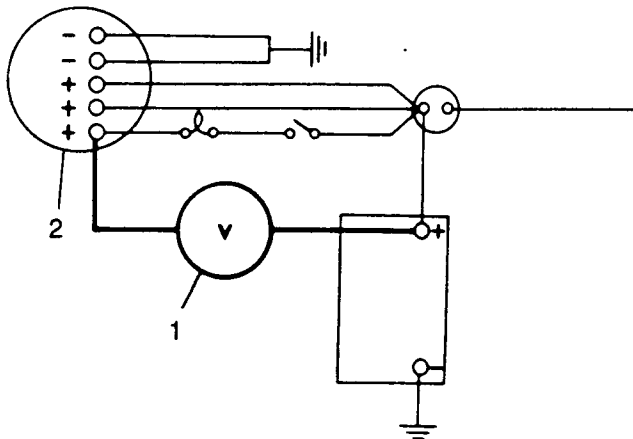

Fig O3.2
(1) Refer to Fig O3.2. Connect voltmeter (1) between battery +ve terminal and alternator main output terminal (2).
(2) Switch on all vehicle lighting, headlights on main beam.
(3) Start engine and run at 3000 rev/min. Note voltmeter reading. Stop engine and switch off the lights.